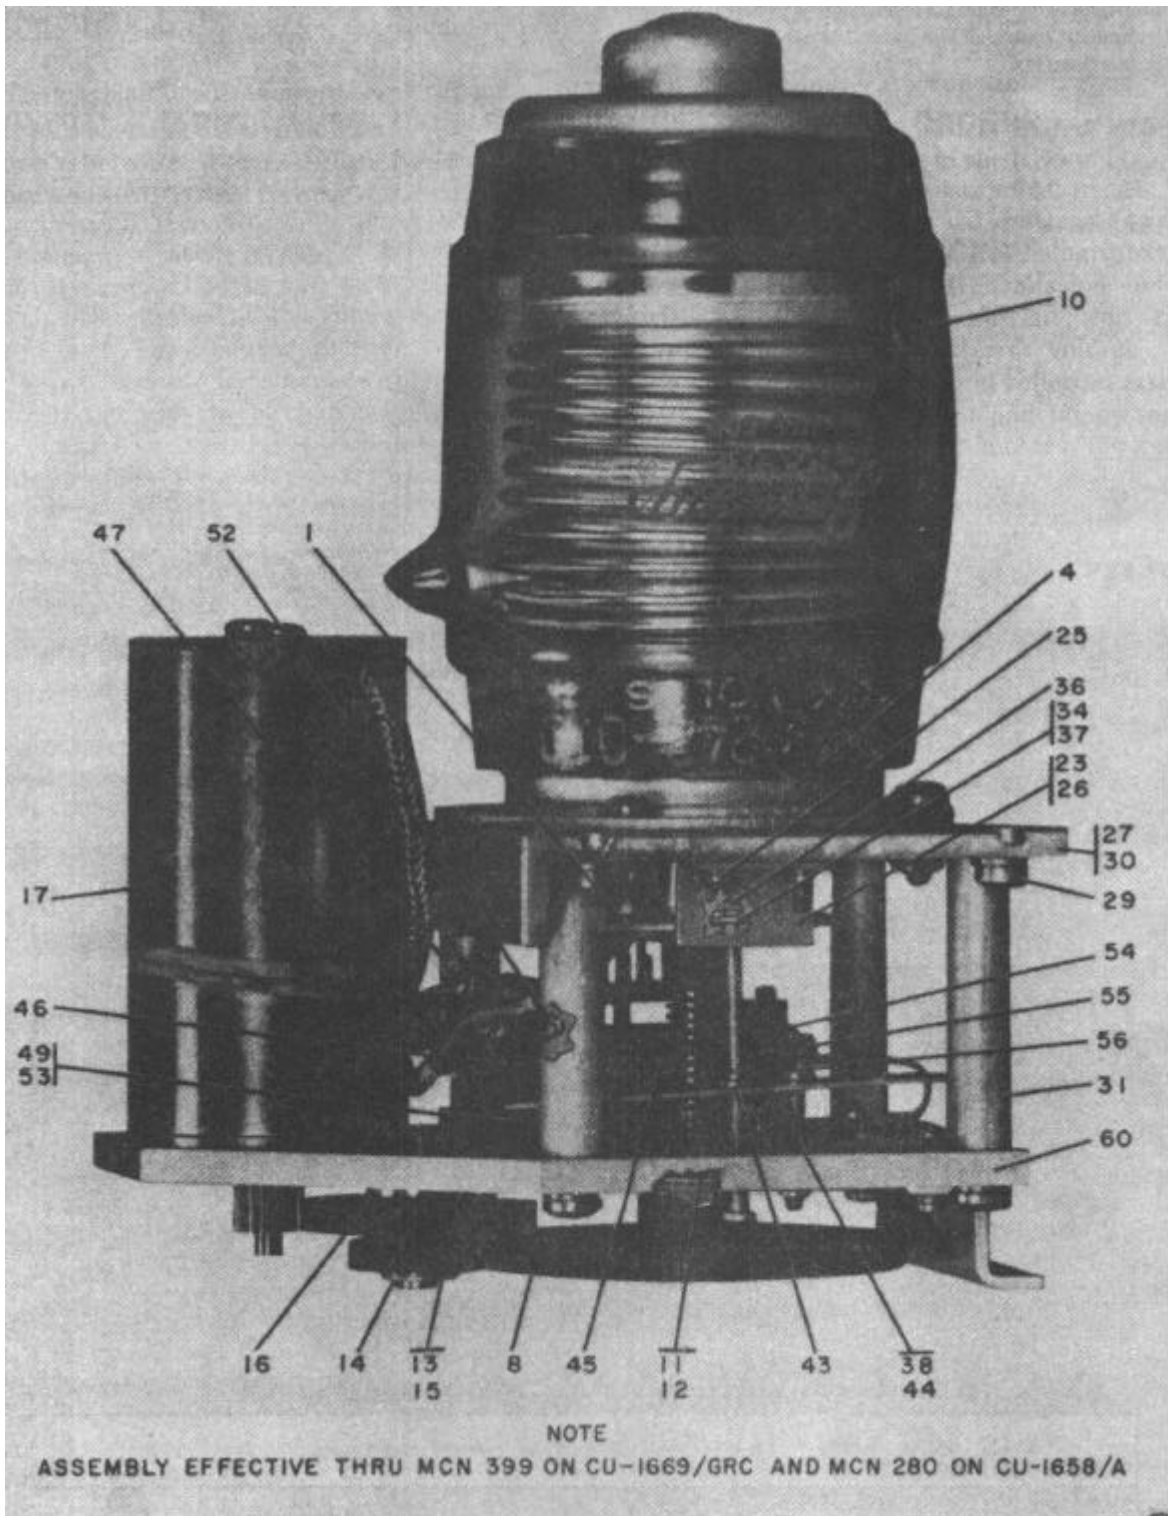

Figure 3-2(1). Shunt Capacitor A 7, (Part Number 528-0466-000), Parts Location (Part 1 of 2).
Legend for figures 3-2(1) and 3-2(2):